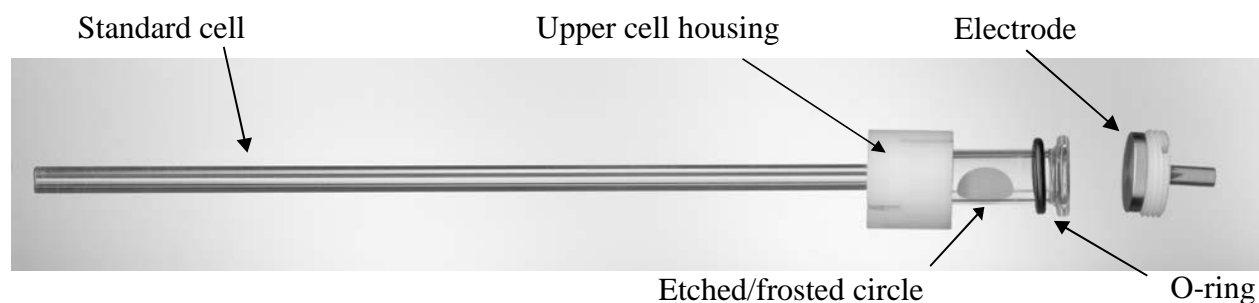
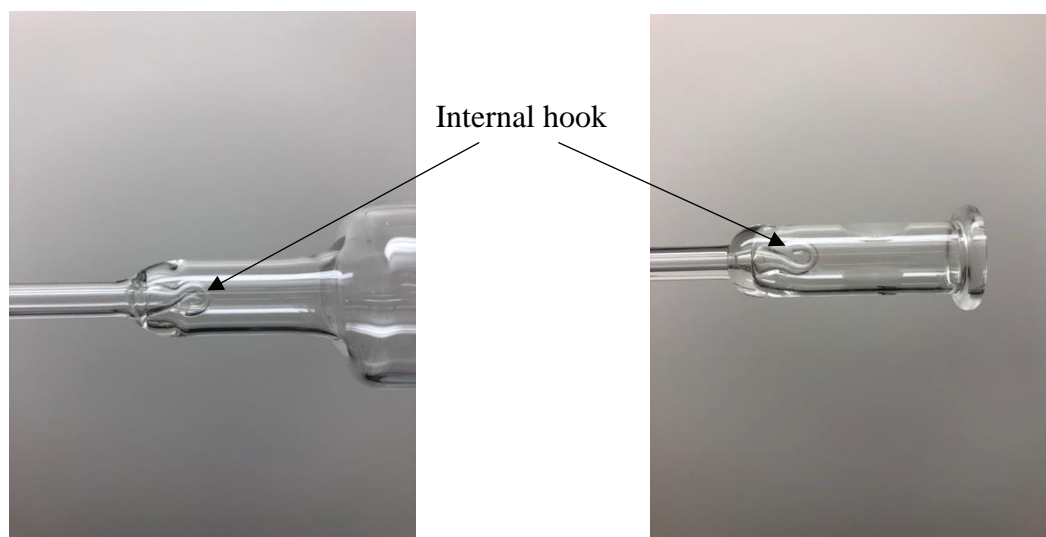

Figure 4. PoreMaster short standard sample cell assembly
Figure 5. Internal hook in macro (left) and standard cell (right)
- Figure 4 details the components for the standard cell. The macro cell is similar, but has an O-ring built into the top portion of the cell housing. For both types of cells, the etched (or frosted) circle identifies the side of the cell in which the internal hook is upright. Figure 5 shows the internal hook for both the macro and standard cell. It is important to keep the hook upright when testing powder materials that could be drawn through the penetrometer as vacuum is applied.
- Place the sample cell, with its housing in the low pressure (LP) station (Figure 9). Make sure that the frosted circle is up to properly position the internal hook as seen in Figure 5. Take care to turn slightly as the tip crosses the retaining O-ring. Back off a little if resistance builds, and then proceed forward again. **Maintain alignment along the length of the cell so as to not break off or chip the cell tip!** Once inserted, turn the black knurled ring clockwise until tight to hold the cell in place.